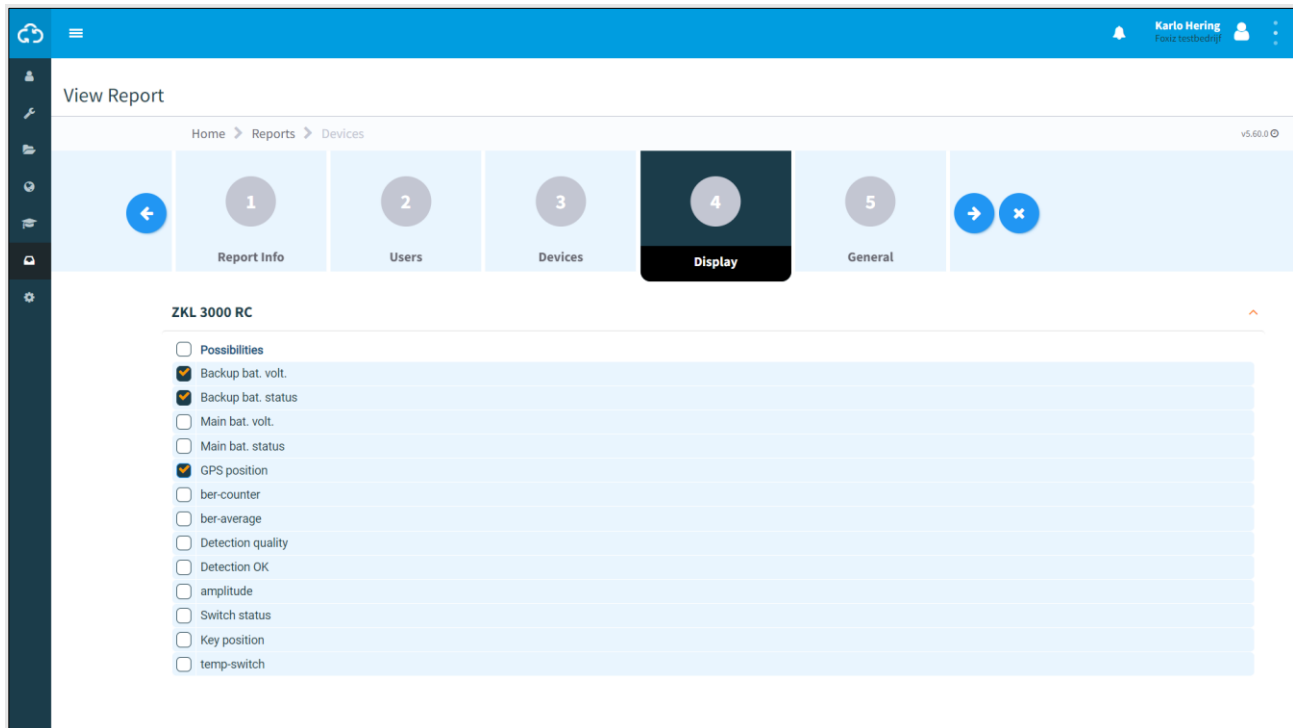

Figure 10-5: View report - display
- Step 2 - Display (Figure 10-5);